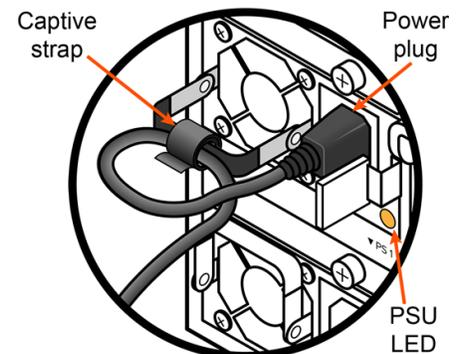

Figure 3-9. Connecting the Power
3. Lower the power supply handle, make a loop in the power cord near the plug, and wrap the captive strap around the loop, securing the cord to the handle. See Figure 3-9.